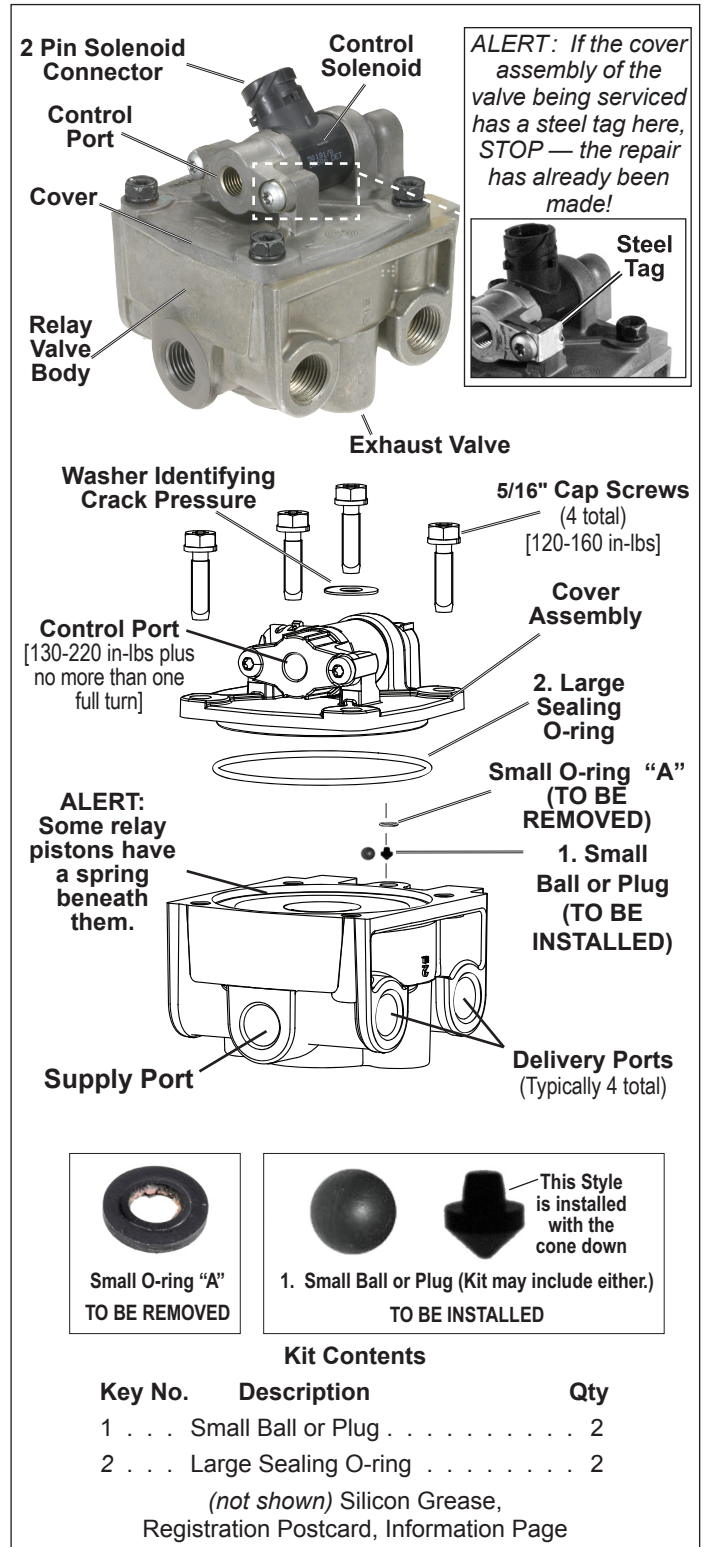

FIGURE 1 - BENDIX® ATR-6™ TRACTION RELAY VALVE
- (a) For the steel tag showing that the repair has already been made (See Figure 1);
6. **Remove and discard** the small O-ring ("A" in Figure 1) and the large sealing O-ring (2) from the cover.
7. Grease and install the new large sealing O-ring (2) onto the cover assembly.
8. Grease and install the supplied ball or plug (1) into the valve body where the small O-ring was removed, so that it blocks the air passage. Plugs are installed with the cone down.